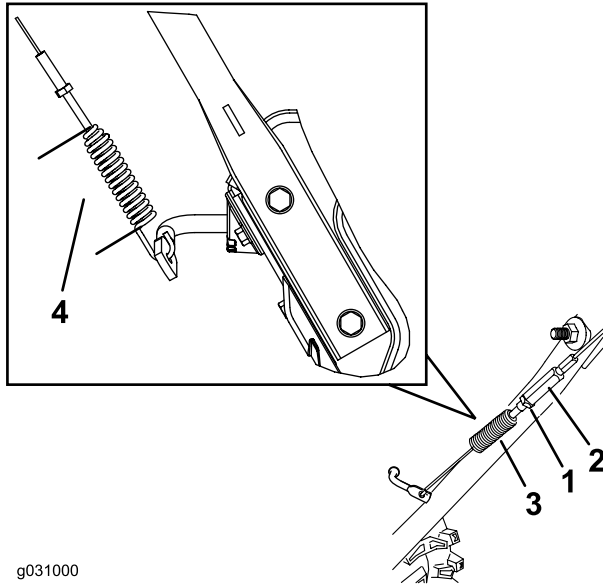

Figure 35
- Loosen or tighten the turnbuckle to adjust the spring length to 7 cm (2-3/4 inches) as shown in Figure 35.
- Tighten the jam nut (Figure 35), ensuring that there is slight tension on the cable.